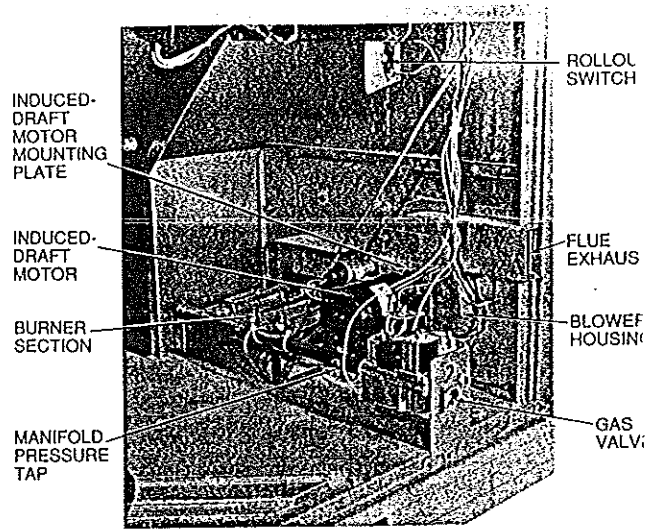

Fig. 36 — Burner Section Details
REMOVAL AND REPLACEMENT OF GAS TRAIN (See Fig. 36 and 37)
11. Slide the burner tray out of the unit (Fig. 36).